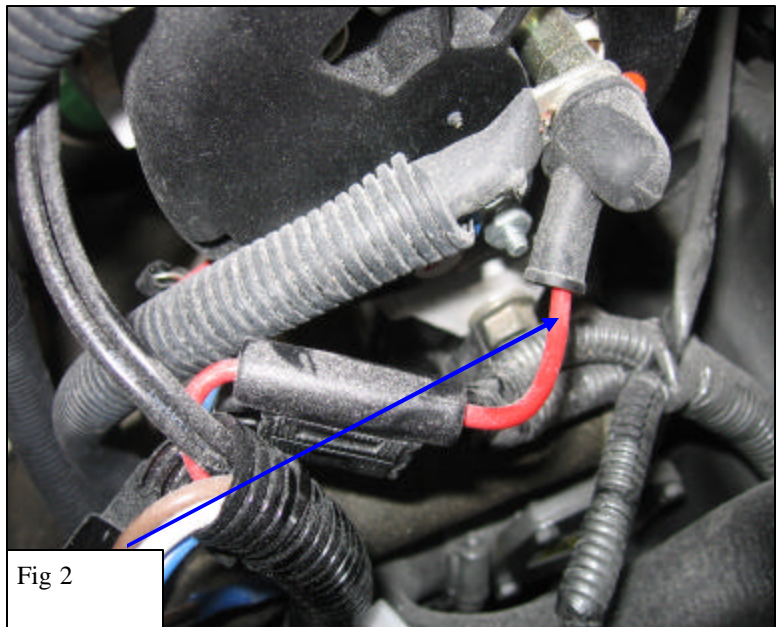

Fig 2
2. Connect red wire Balmar harness to (comes with fuse) to alternator positive output, and secure the thread stud.(fig2)